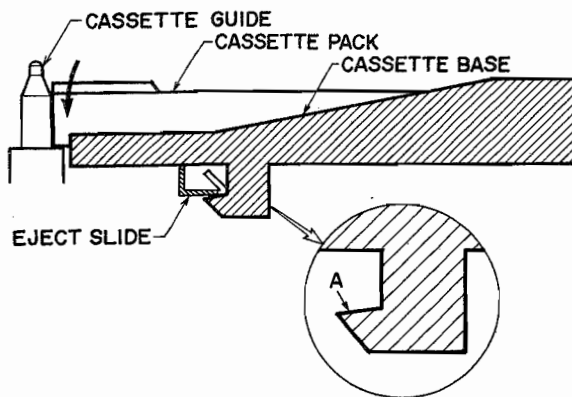

Fig. 10
1. EJECT SLIDE ADJUSTMENT (See Fig. 10)